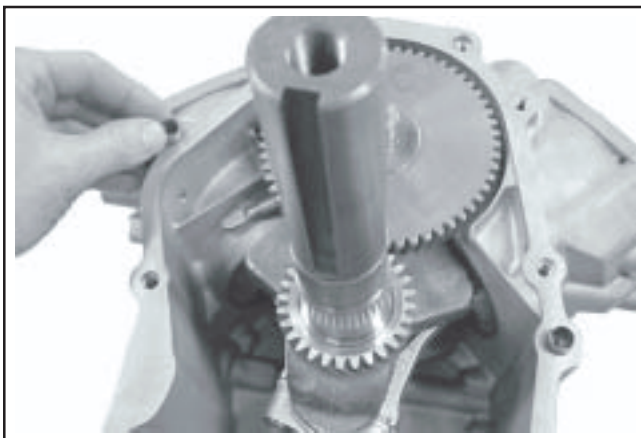

Figure 11-17. Installing Locating Pins.
4. Make sure end of governor cross shaft is lying against the bottom of cylinder #1 inside of the crankcase. See Figure 11-17
5. If alignment pins were removed previously, install them in their respective locations in the crankcase. See Figure 11-17.